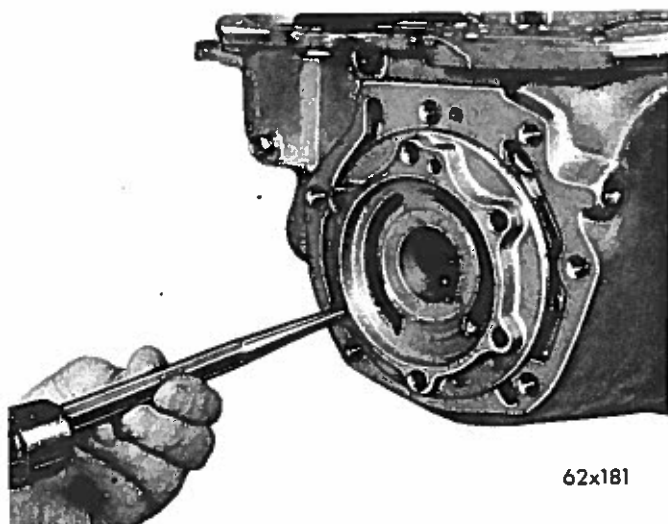
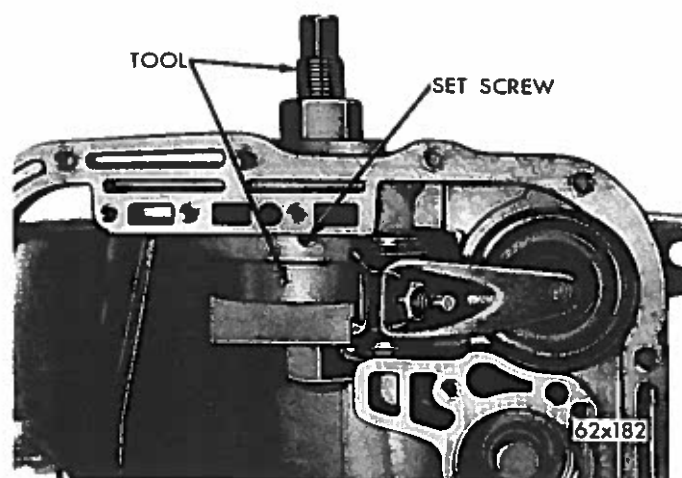

Fig. 68—Removing Overrunning Clutch Cam
Fig. 69—Installing Overrunning Clutch Cam (Tool C-3863)
(1) Remove set screw from the case below the clutch cam.
(2) Insert a punch through the pump body bolt holes and drive the cam from the case (Fig. 68). Alternate the punch from one bolt hole to another so the cam will be driven evenly from the case.
(3) Clean all burrs and chips from the cam area in the case.
(4) Place the spring retainer on the cam, making sure the retainer lugs snap firmly into the notches on the cam.
(5) Position the cam in the case with cam serrations aligned with those in the case. Tap the cam evenly into the case as far as possible with a soft mallet.
(6) Install Tool C-3863 as shown in Figure 69, tighten nut on the tool to seat the cam into the case. Make sure the cam is firmly bottomed, then install the cam retaining set screw. Stake the case around the set screw to prevent it from coming loose.